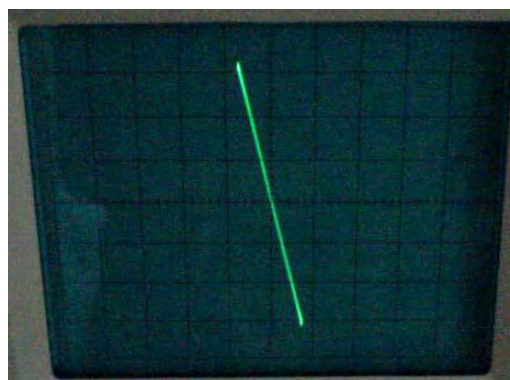

Fig. 15
- Now, move the mirror away from the operating unit as long as you see a straight-line sloping into the opposite direction (*Fig. 15*). Note this position of the mirror as x_2 .